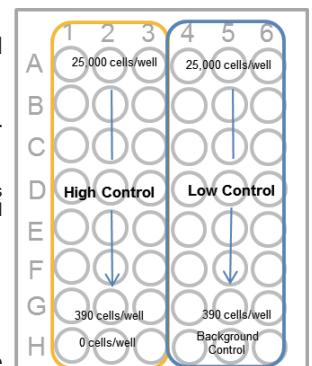

Fig. 2 Plate arrangement
- Prepare 2-fold serial dilution of each well in triplicate set of wells for the high-control, low-control and background control (medium only) (Refer to Fig.2 for the plate arrangement).
- 3) Prepare 2-fold serial dilution of each well in triplicate set of wells for the high-control, low-control and background control (medium only) (Refer to Fig.2 for the plate arrangement).